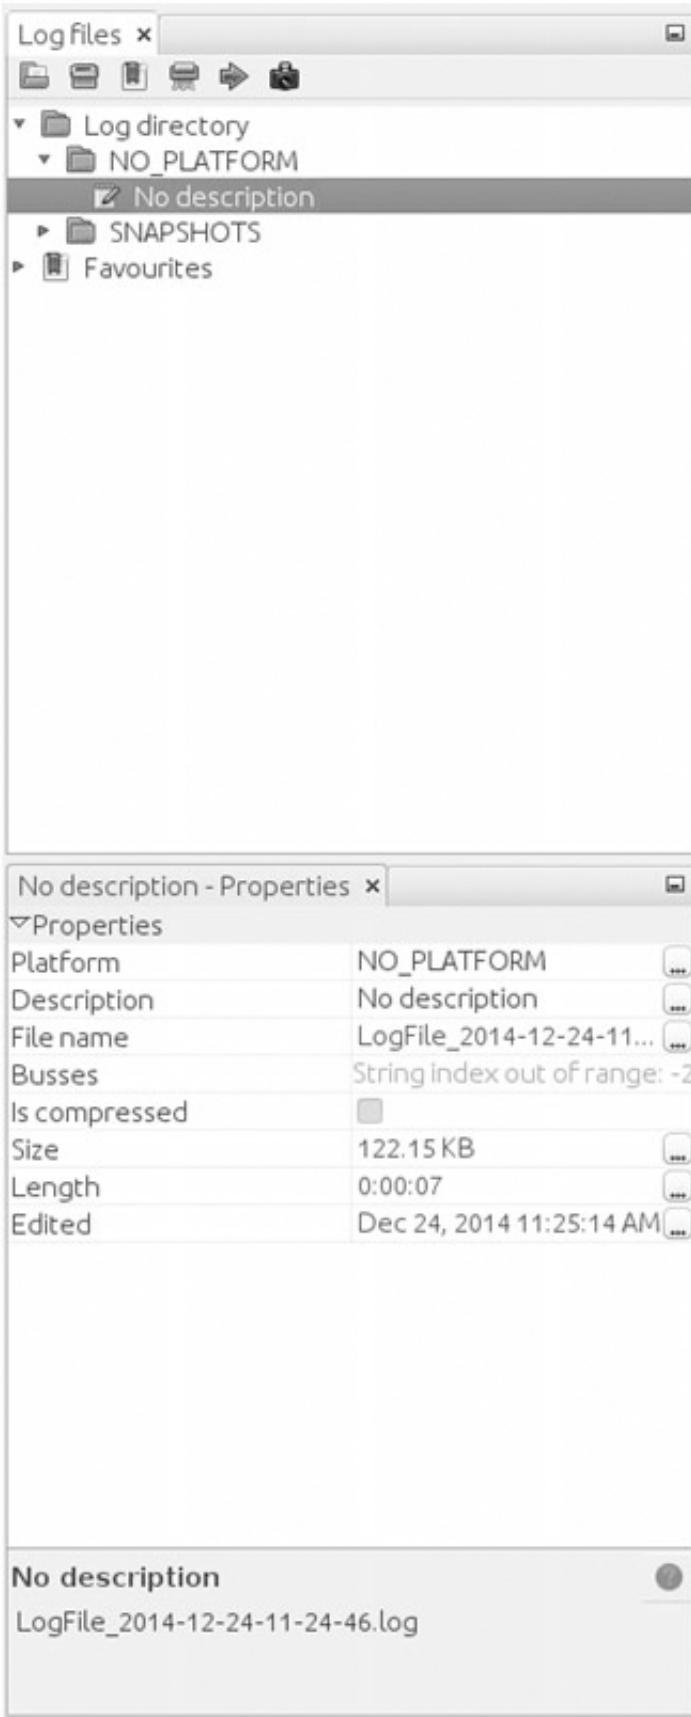

Figure 5-5: Right pane of Log files tab settings
To record CAN packets with Kayak, first click the Play button in the Log files tab ①. Then drag one or more buses from the Projects pane to the Busses field of the LogOutput Window tab ②. Press the Record and Stop buttons at the bottom of the LogOutput window ③ to start or stop recording. Once your packet capture is complete, the logging should show in the Log Directory drop-down menu (see Figure 5-5).
Other than some metadata (`PLATFORM`, `DESCRIPTION`, and `DEVICE_ALIAS`), the log is pretty much the same as the one captured by the `can-utils` package: ❶ is the timestamp, ❷ is your bus, and ❸ is your arbitration ID and data separated by a # symbol. To play back the capture, right-click the **Log Description** in the right panel, and open the recording (see Figure 5-5).